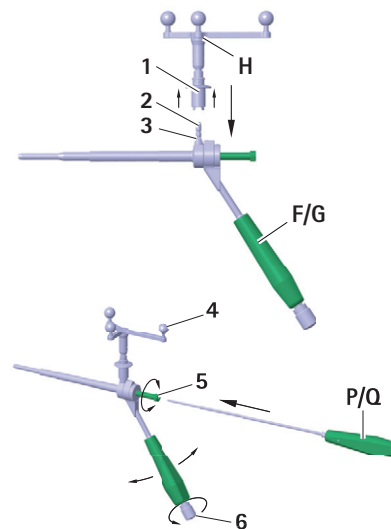

Fig. 2 Mounting the Aesculap star unit on S⁴C drill guide FW664R/FW665R
- To ensure that the camera has an unrestricted view of the reflective marker spheres, loosen knob **6** on the S⁴C handle of the S⁴C drill guide **F/G** and rotate Aesculap star unit **H** to the desired position, see Fig. 2.
- To ensure that the camera has an unrestricted view of the reflective marker spheres, loosen knob **6** on the handle of the S⁴C drill guide **F/G** and rotate Aesculap star unit **H** to the desired position, see Fig. 2.